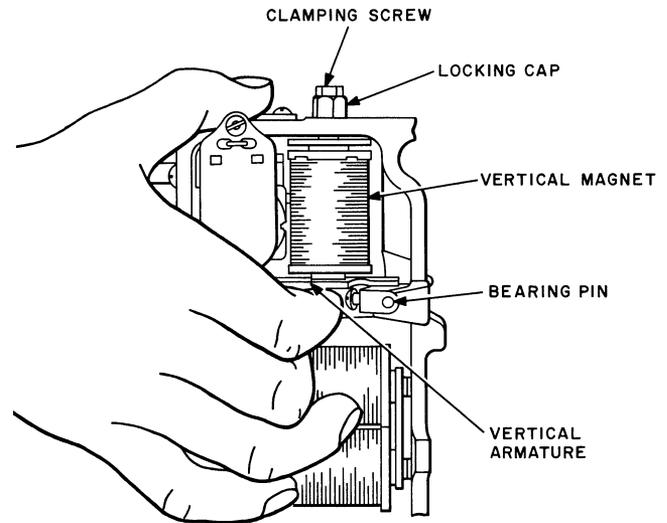

Fig. 16 — Method of Supporting Vertical Armature While Replacing Bearing Pin
(1) To replace the vertical armature bearing pin clamp and bearing pin, disengage the vertical armature spring from the "T" head of the adjusting screw and swing the spring to the right until it clears the head of the screw. Loosen the bearing pin clamp screw with the 4-inch E screwdriver or with the 556A wrench. If only the bearing pin clamp is to be replaced, tap the vertical armature bearing pin from left to right with the 1/16-inch pin punch, and where necessary, with the 4-ounce riveting hammer until the pin disengages the bearing pin clamp, and replace the clamp. If the bearing pin is to be replaced, tap it until it can be withdrawn from the right-hand side of the switch by means of the fingers or with a pair of 485A pliers.
(2) Insert the new bearing pin from the left-hand side of the switch, guiding the vertical armature with the right hand as shown in Fig. 16 so that the pin engages the hole in the armature. After the pin has engaged the hole in the right-hand side of the armature, place the bearing pin clamp in position and adjust the armature and the clamp so that the pin enters the hole in the clamp. Tap with the hammer. When the pin is in position, tighten the bearing pin clamp screw and replace the armature spring on the "T" head of the armature spring adjusting screw.